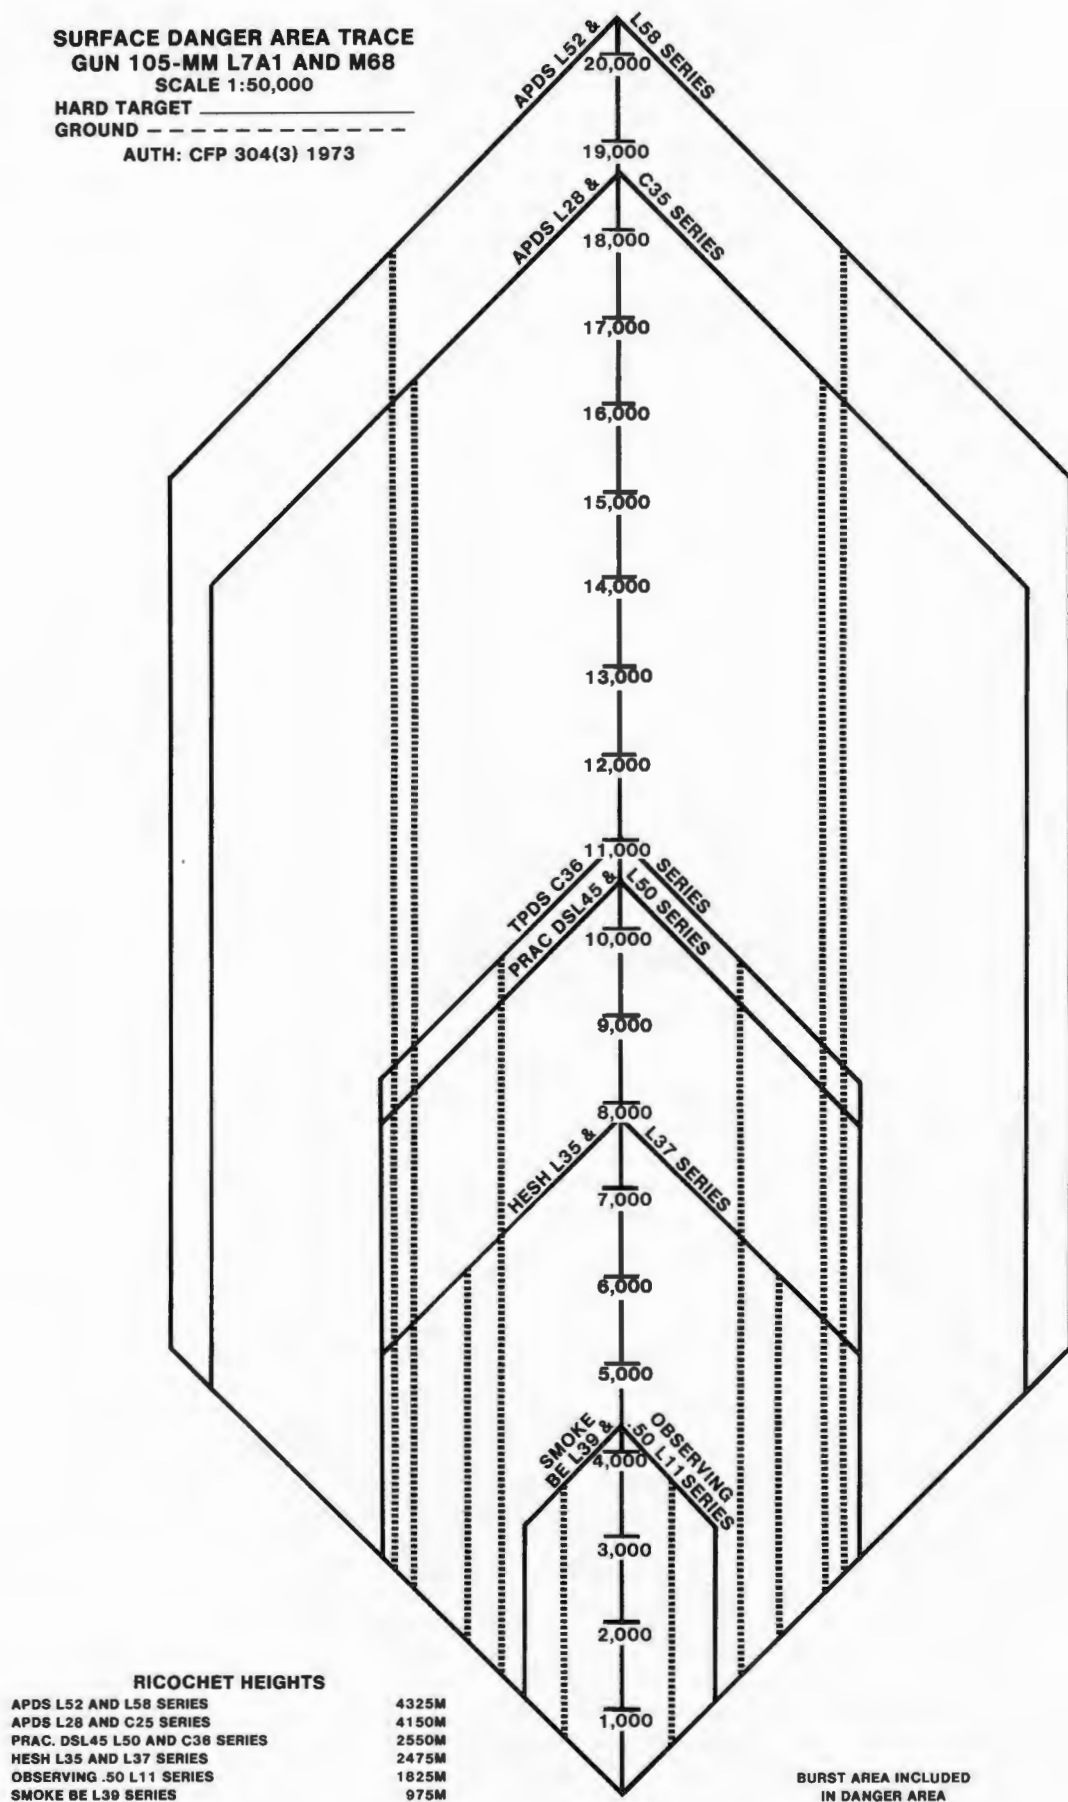

Figure 2
The Canadians use a simple template (figure 2) to figure their range safety limitations, projected range size, and the like. Instructions for its use are simple and concise. Their basic safety regulation, Canadian Force Pamphlet 304(3) is much less complicated than ours. Even our M-68 tank cannon is included on this template which would facilitate its adoption by our Armor forces. Note that the template is designed to be plotted from a single point instead of a firing line which AR 385-63 specifies. Only one of our tank gunnery tables (Table VI) is fired from a static firing line (main gun); the remainder are either fired subcaliber or require that the tank move down range, therefore why use an antiquated method such as ours? Perhaps we should opt for something similar to the Canadians. It would certainly make it simpler for the S-3's and range control personnel who must plan, design and implement these ranges.